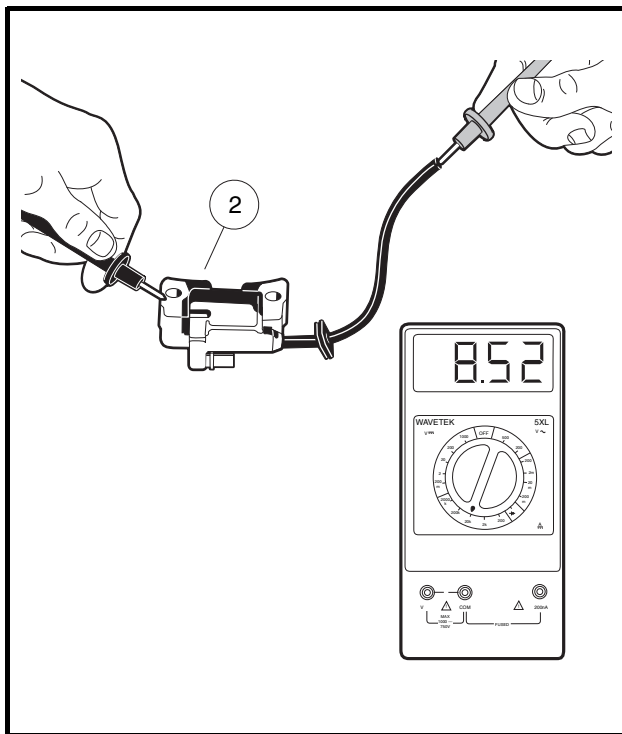

Figure 11-34 Secondary Coil Resistance – Bench Test
- 5.1. Using a multimeter set to 20k ohms, place the red (+) probe of the meter into the end of the spark plug wire and place the black (–) probe on the core (2) (**Figure 11-34, Page 11-29**). If the resistance is between 6.0k - 11.0k ohms, the secondary coil is within acceptable limits. If the resistance is not between 6.0k - 11.0k ohms, the ignition coil has failed and must be replaced.